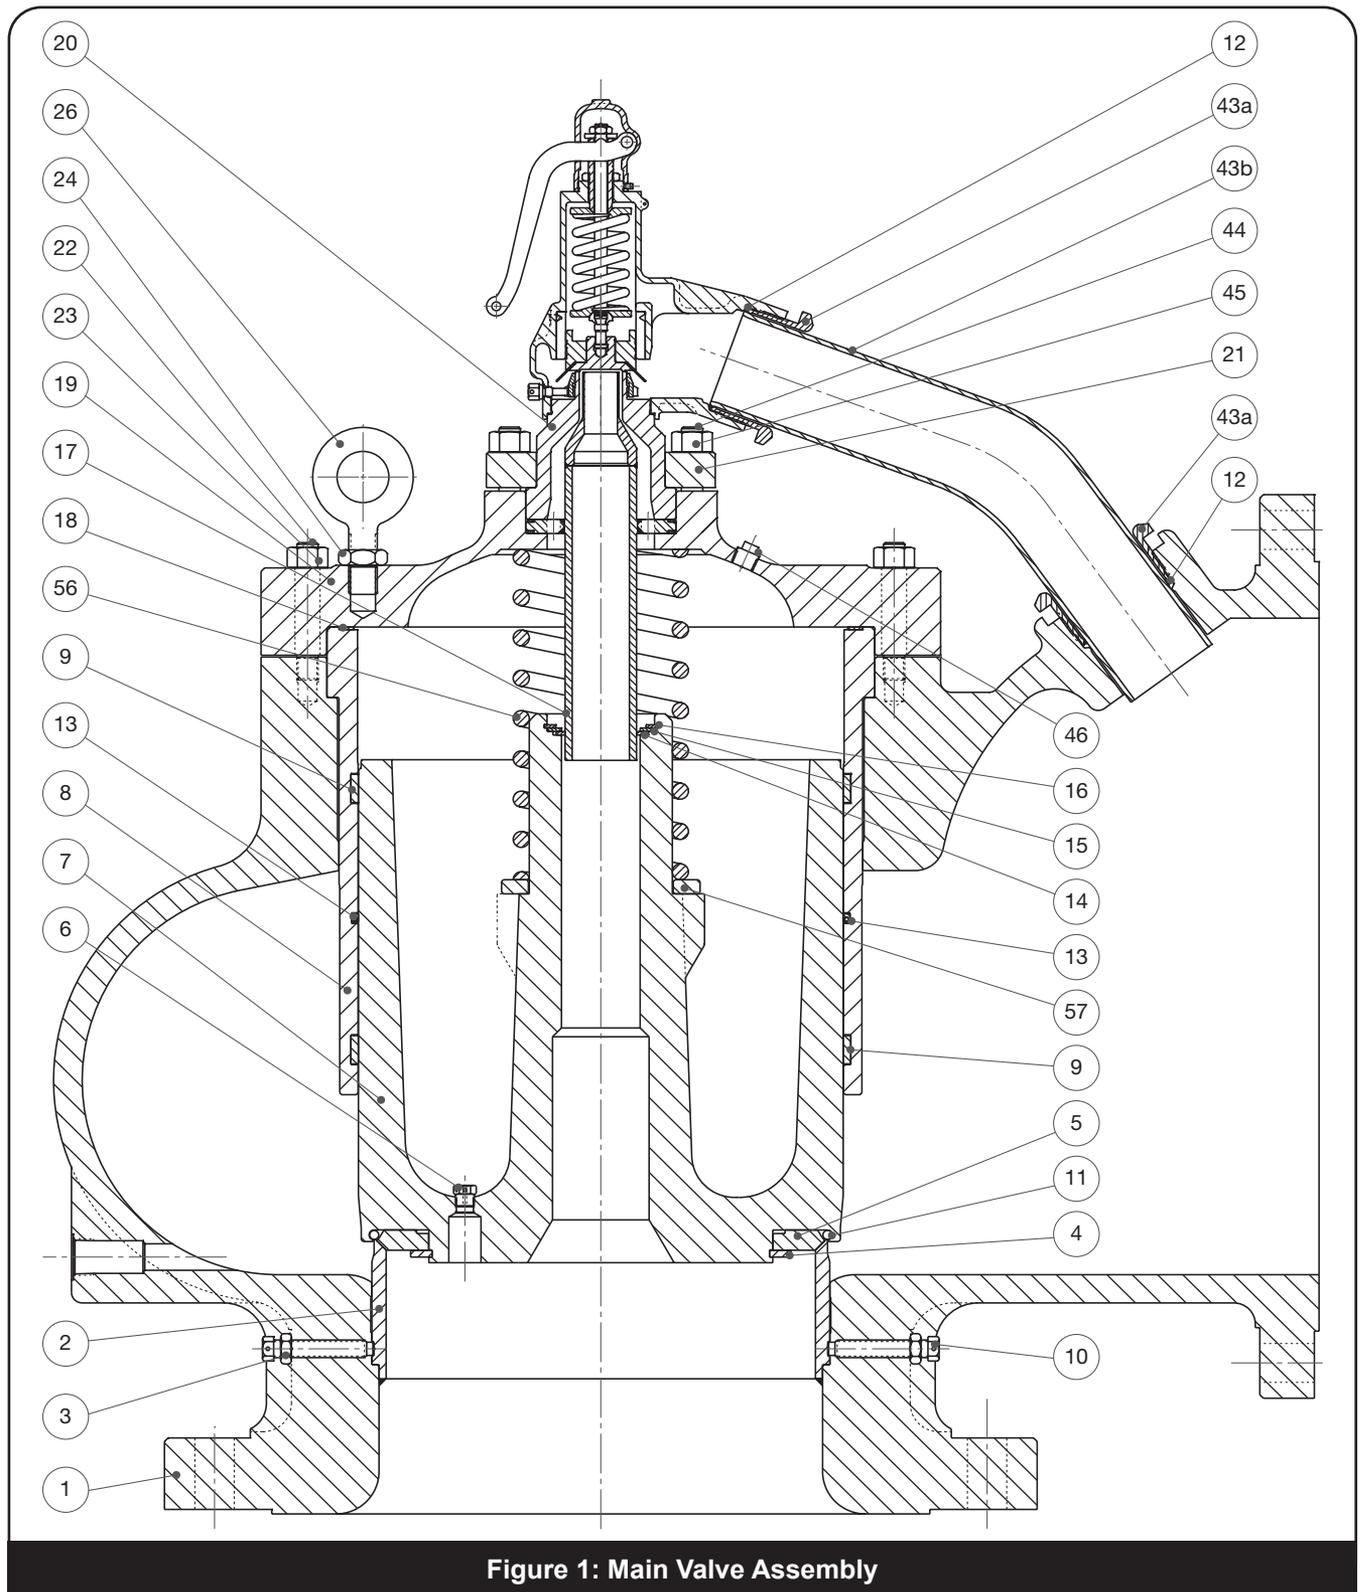

Figure 1: Main Valve Assembly
5. Uncrated valves should be moved or hoisted by the three eye bolts located on the top flange of the valve (See Figure 1, Item 26). Crated valves should always be lifted with the inlet flange down.
1. Lift the valve using all three eye bolts located on the top flange (See Figure 1, Item 26). Eye bolts must be fully engaged in top flange.